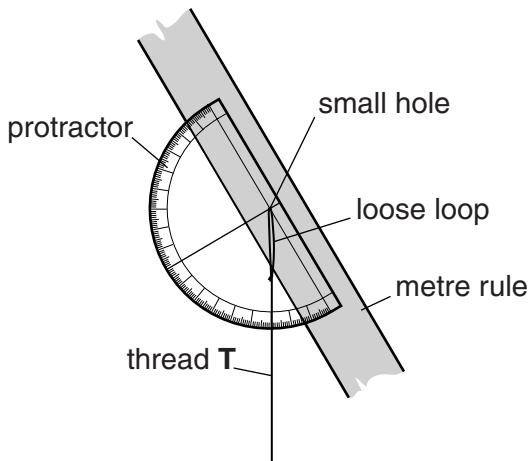

Fig. 1.2
- 8 Thread **T** should be approximately 15 cm in length such that, with no weights on the weight holder, weight **Z** should remain clear of the bench. The thread must be attached through the hole at the 85cm mark with a large enough loop so that it swings freely as the angle varies (see Fig. 1.2). It may be necessary to have a loop at the other end of the thread to attach the 200 g mass. Thread **T** should not interfere with the protractor at the 85 cm mark or with the 200 g mass.